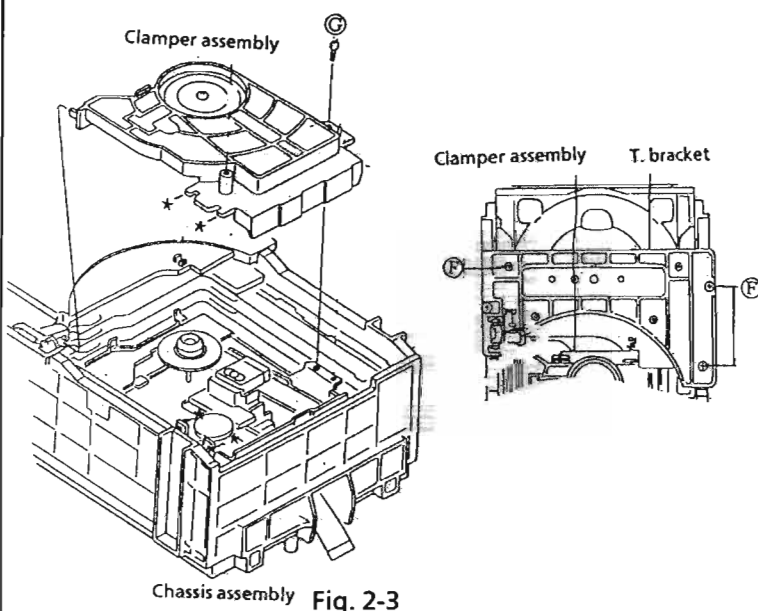

Fig. 2-3
3. Remove 3 screws (F) securing T.Bracket. (See Fig. 2-3.)
4. Remove a screw (C) securing center of the clamber ass'y. (See Fig. 2-3.)